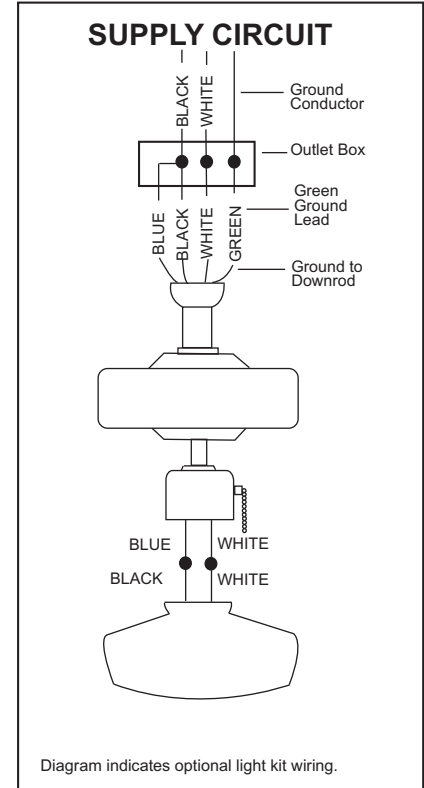

Figure 13
1. Connect the fan supply (black) wire and light supply (blue) wire to the black household supply wire. (Figure 13)
3. Connect the fan ground wire (green) to the household ground wire. (Figure 13)